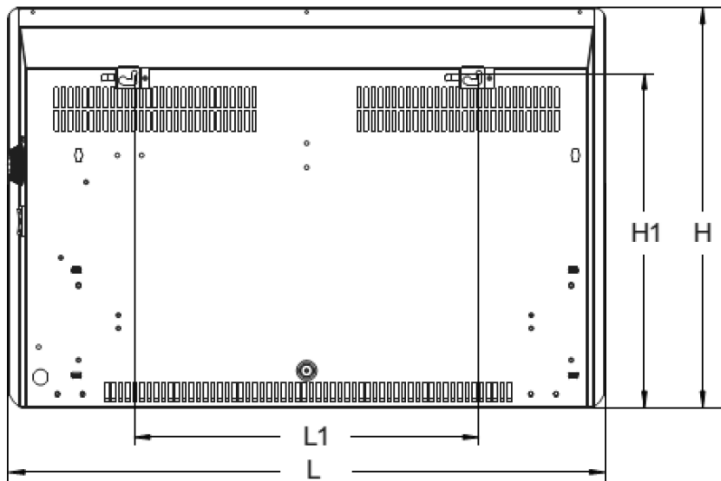

Fig. 2
3. According to Fig. 2 and Fig. 3 choose the location for the installation of the device in compliance with the minimal distances from other objects and floor.